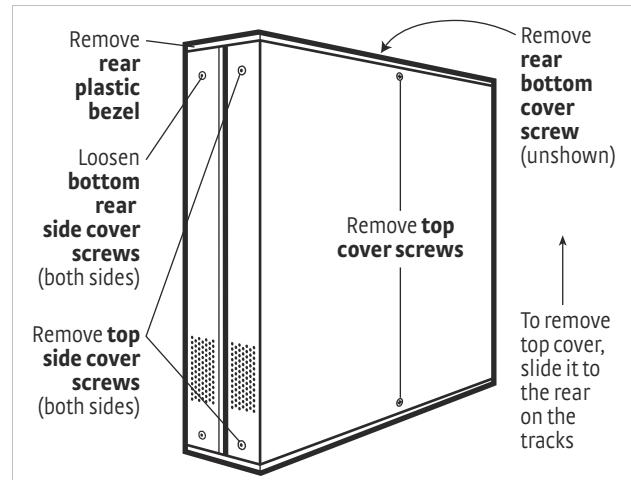

FIGURE 8-10 *Cover removal*
2. Stand the unit on its face. Use a 5/64 in hex driver to remove the four screws on both sides of the top cover. Loosen the two rear bottom screws (FIGURE 8-10).
3. Use a small Phillips screwdriver to remove the two top cover screws and one rear bottom screw (FIGURE 8-10).